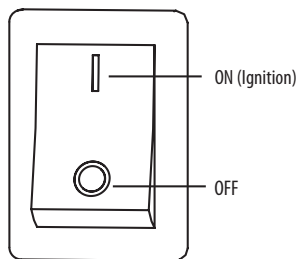

Figure 11
5. If equipped with an emergency stop control switch, make sure that the emergency stop control is set to the ON position, represented by the solid line while attempting to start the engine. See Figure 11.
To stop the running engine using the emergency stop control, move the switch to the OFF position, represented by the circle. See Figure 11.